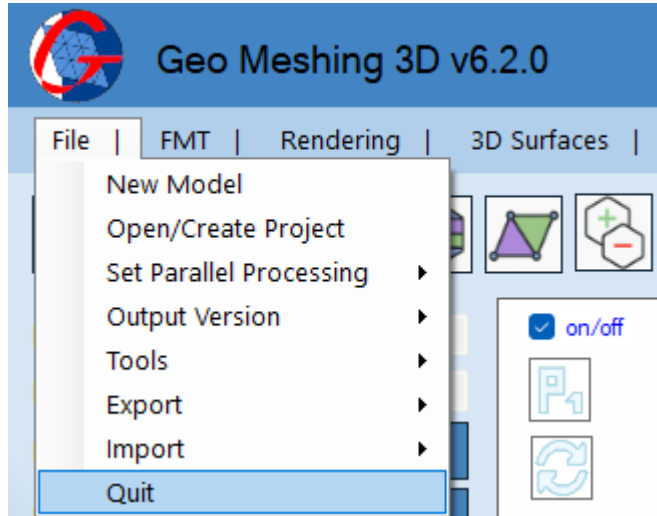

Figure 23: File Menu – Quit.
- **File Menu, Quit:** Exits from *Geo Meshing v6* (shown in Figure 23).